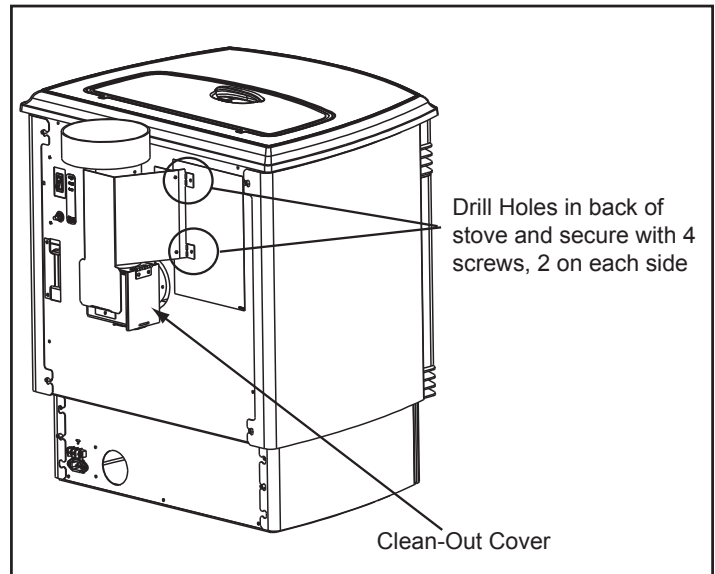

Figure 19.2
3. Drill 4 holes with #26 drill bit (provided) into the back of the appliance using the outer shield as a pattern (make sure the assembly is vertical). **Figure 19.2.**
7. To clean the top vent adapter open the clean-out cover. **Figure 19.2.**